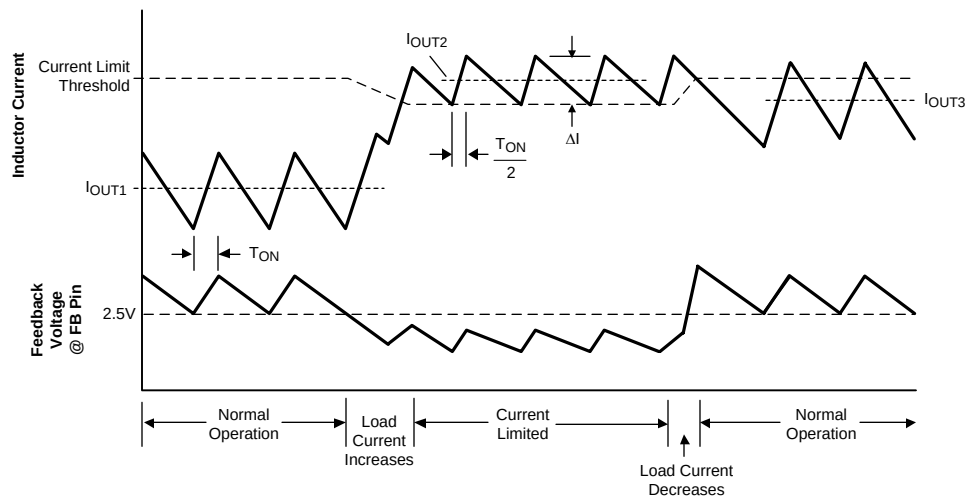

Figure 4. Inductor Current - Normal and Current Limit Operation
a) Reduced ripple configuration: In Figure 4, Cff is added across R1 to AC-couple the ripple at V_{OUT} directly to the FB pin. This allows the ripple at V_{OUT} to be reduced to a minimum of 25 mVp-p by reducing R3, since the ripple at V_{OUT} is not attenuated by the feedback resistors. The minimum value for Cff is determined from: